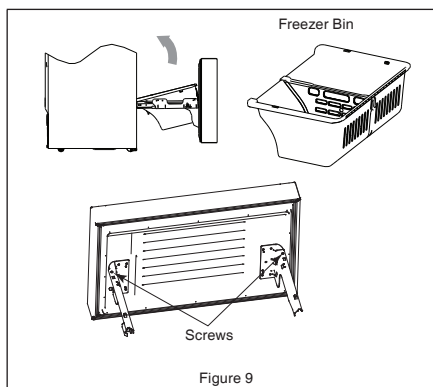

Figure 9
5. Remove the screws on the left and right side rails with a screwdriver and have one person hold the freezer drawer door for support. See Figure 9.